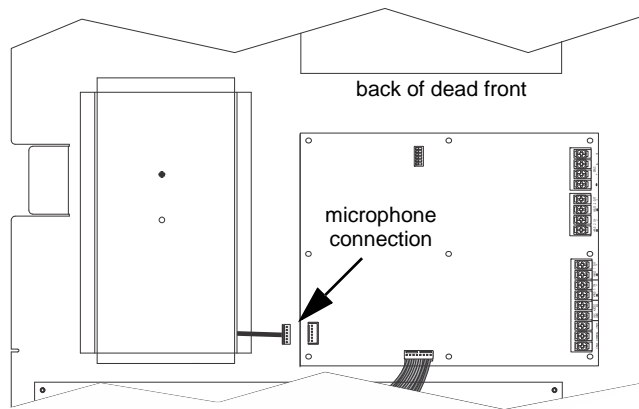

Figure 4.56 Microphone Cord Inserted Through Dead Front Panel Hole
2. Insert microphone cord through hole at the bottom of the dead front panel. See Figure 4.56.
4. Unplug the microphone from the microphone connector. See Figure 4.56.